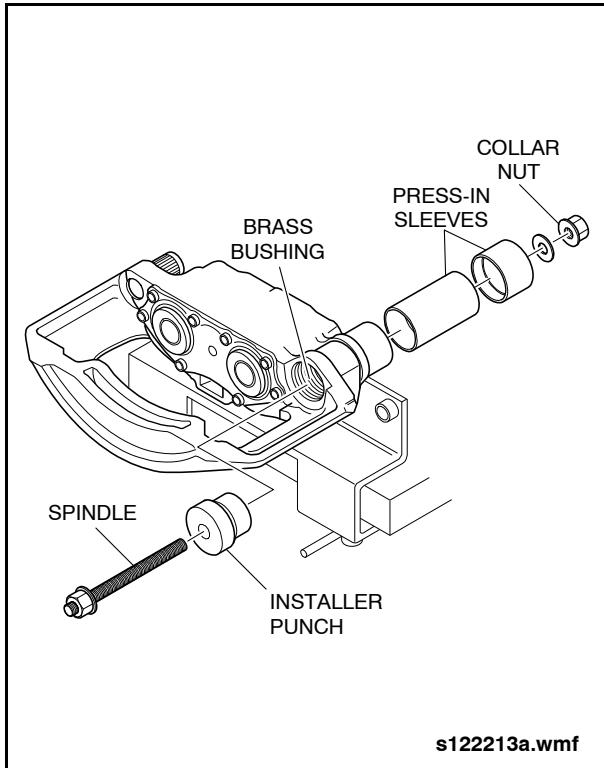

Fig. 1-58: Brass Bushing Removal
- a. Assemble and install the installer punch, press-in sleeves, spindle, and collar nut (Items 72, 77, 75, 71, & 70 from special tools list). See "Fig. 1-58: Brass Bushing Removal" on page 66.